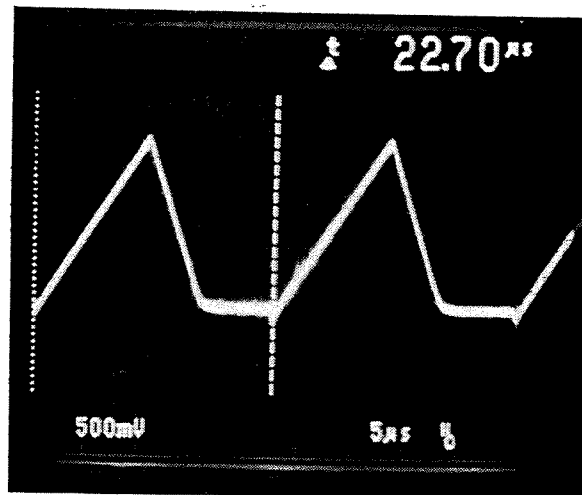

Figure 3.1. 22.7 uS Sync Signal Across C9 on Power Supply.
10. Set the 480L's sampling frequency to 44.1kHz. Verify a 22.7 us period across C9 on the power supply board (see Figure 3.1). Check for +5 4.85 - 5.15V and quiet operation. Remove load and return to normal operation.